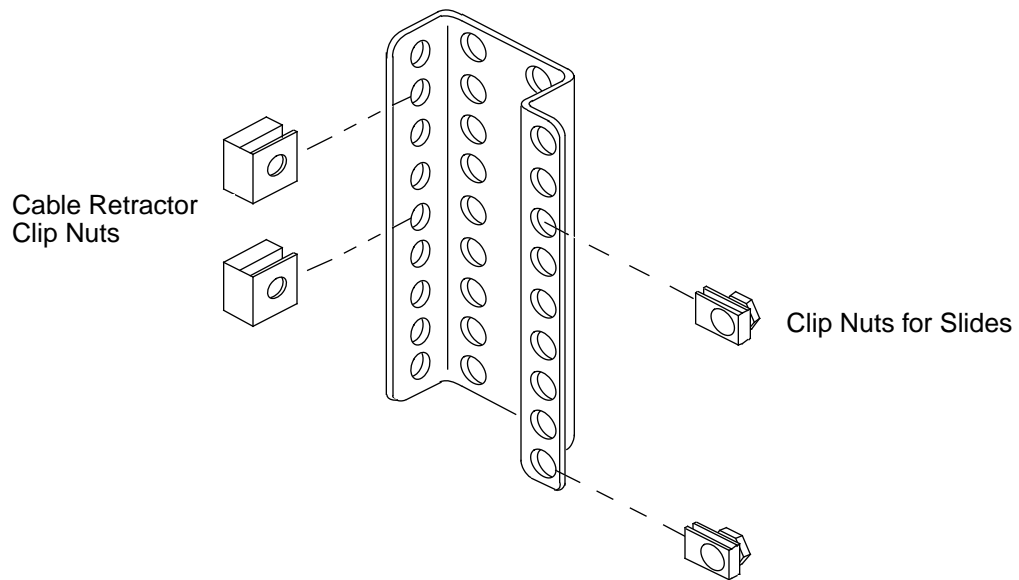

Figure 1. Clip Nut Locations on Chassis Rails
2. Place four large clip nuts (P/N 90141400) on each side of the cabinet (refer to Figure 1), there are eight clip nuts that will be used for installing the tray slides.
- a. Place a clip nut into the 4th hole up from the clip nut of the last drive tray slide. Refer to Figure 1.
- b. Install the upper clip nuts into the 5th hole above the lower clip nut. Refer to Figure 1.